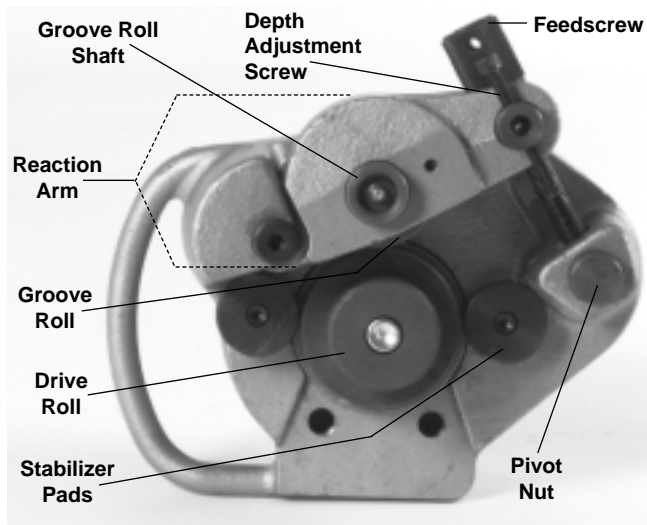

Figure 2 – “Open” Groove Roll from Drive Roll.
1. At a bench or on the ground, rotate the feed screw counter clockwise to “open” the groove roll from the drive roll (*Figure 2*).